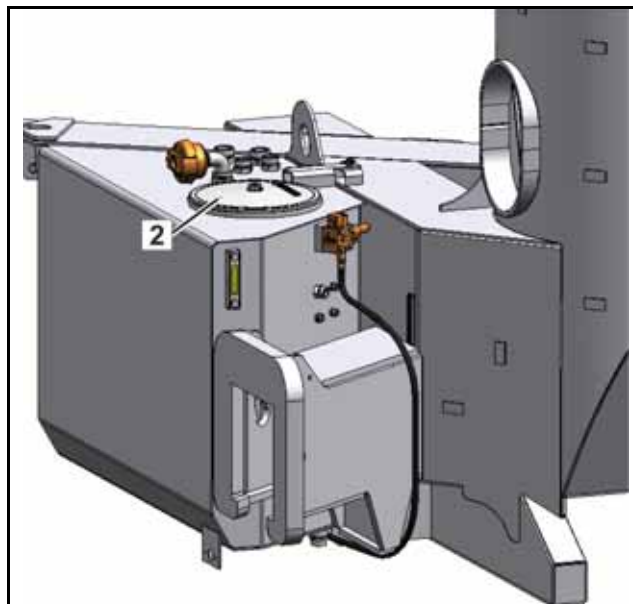

Fig. 278
- Clean the area surrounding the cleaning cover and remove the cleaning cover (2) (Fig. 278).